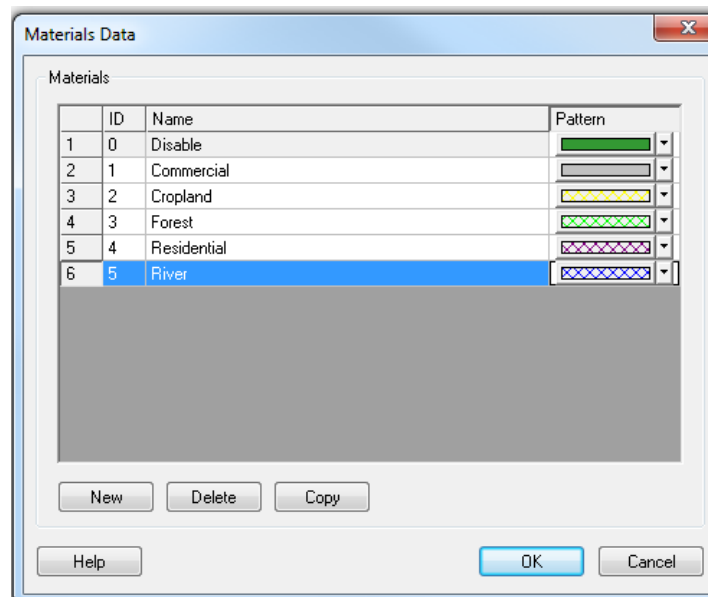

Figure 5 Materials Data headings
5. Rename the materials as shown below in Figure 5. Chose the colors and patterns for each heading if desired.